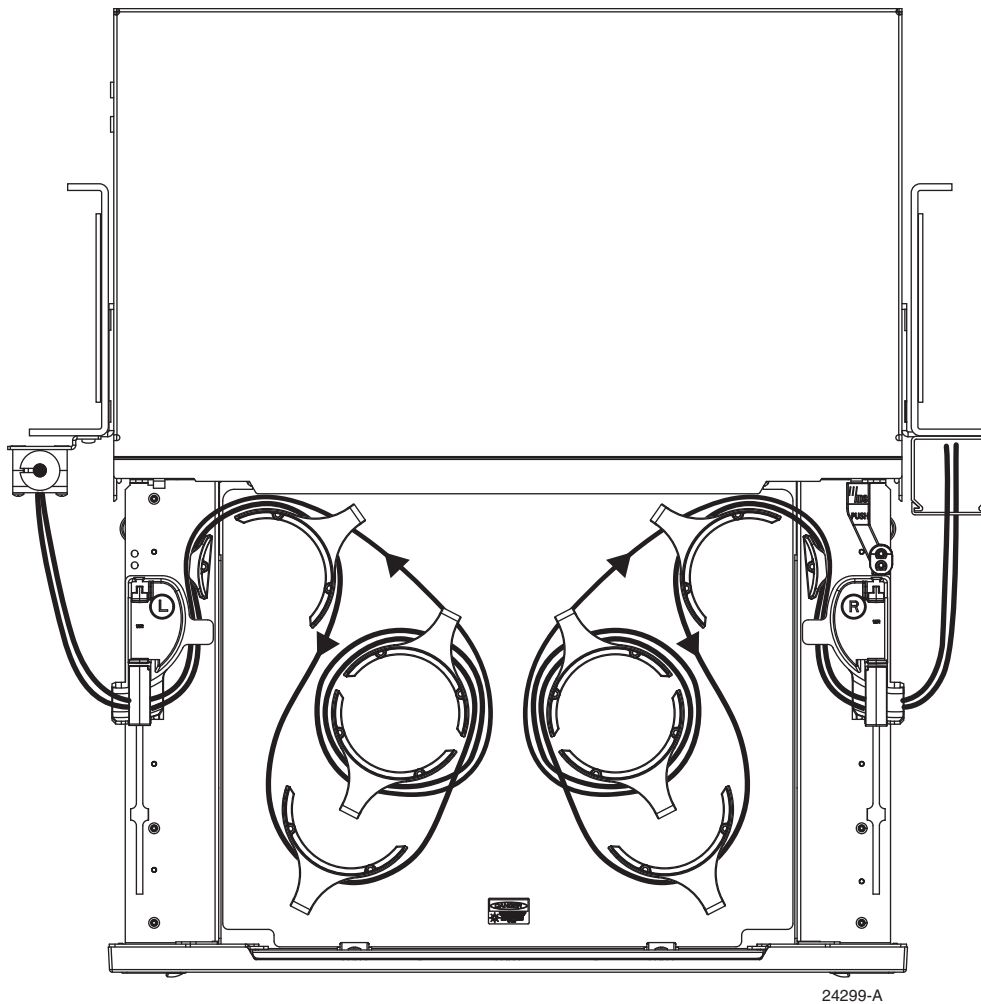

Figure 23. Cable Routing for Bulk Storage FMT Panel
5. Route the patch cords within the tray as shown in Figure 23.
6. Route the patch cords within the tray as shown in Figure 23.